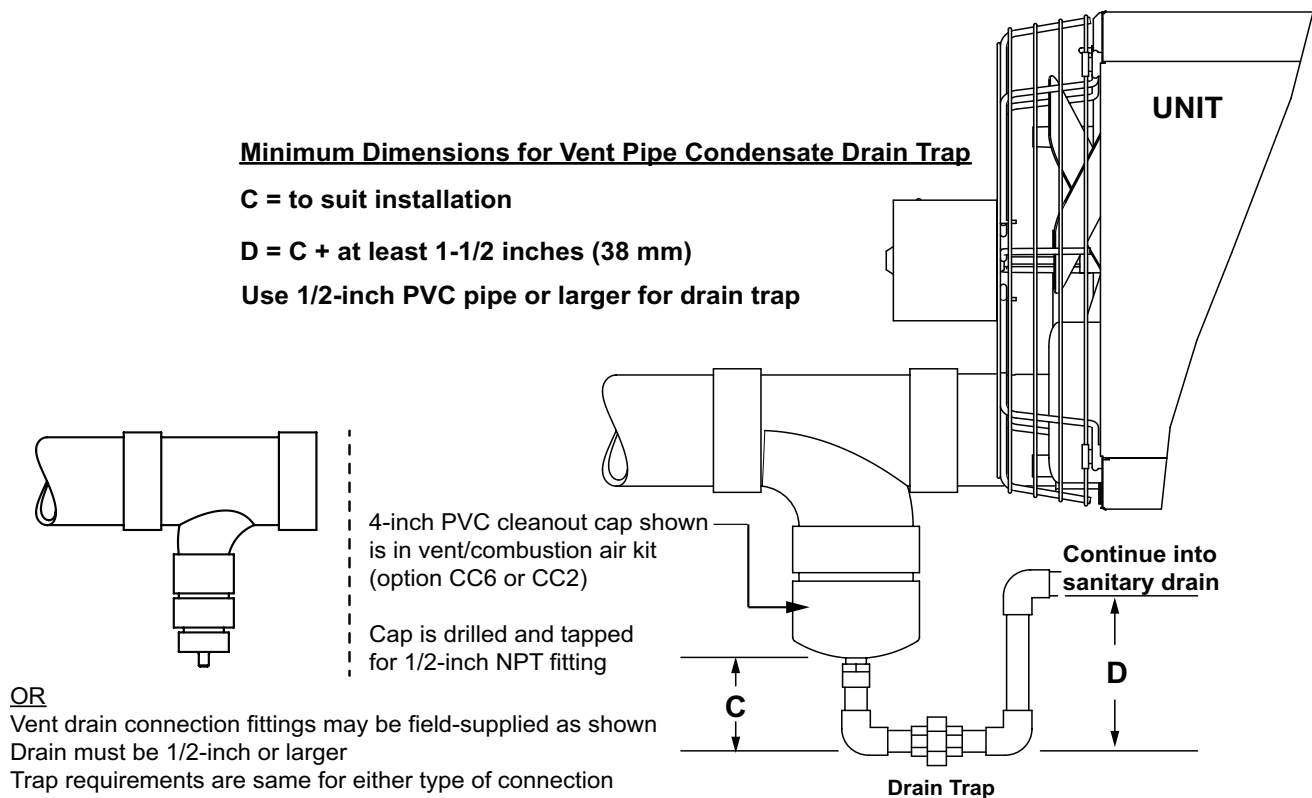

Figure 22. Vent Condensate Drain Trap
4. Install drain trap in accordance with **Figure 22**.